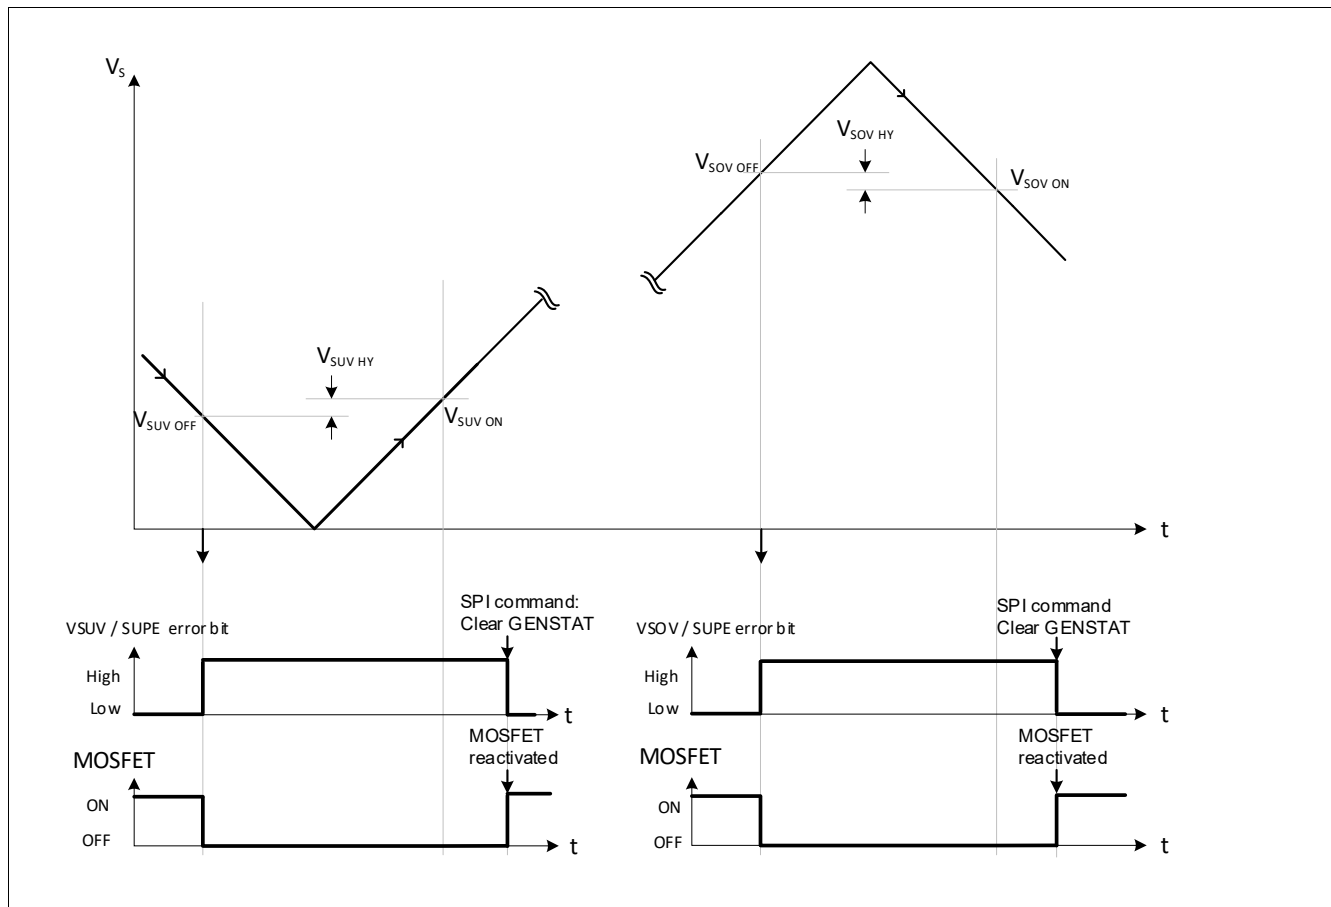

Figure 37 Output behavior during Over- and Undervoltage V_s condition
- $V_S > V_{SUV\ ON}$ (See Figure 37).
- $V_S < V_{SOV\ ON}$ (See Figure 37).